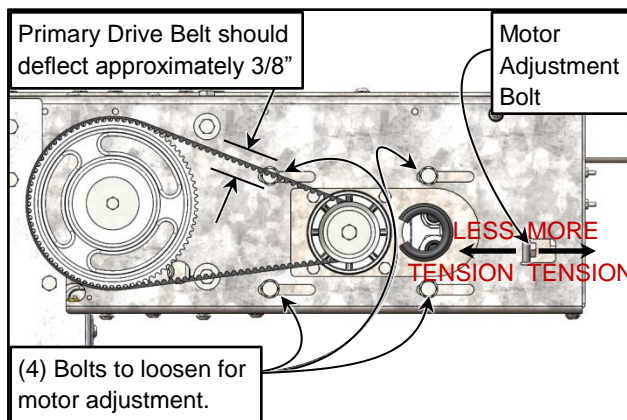

Figure 32
- Check the tension setting of the primary drive belt by placing moderate pressure against the mid-point of the belt. A properly tensioned belt should deflect approximately 3/8" in. (See Figure 32)